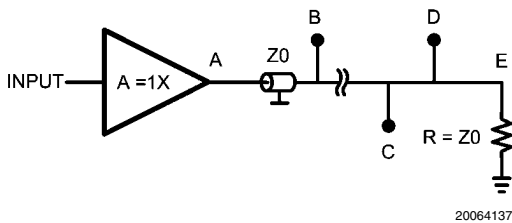

FIGURE 2.
- Use one buffer to drive to multiple points on one transmission line (see Figure 2)
Another transmission line possibility is to route the trace via several points along a transmission line (Figure 2) This is only possible if care is taken to observe certain restrictions. Failure to do so will result in impedance discontinuities that will cause distortion of the signal. In the configuration of Figure 2 there is a transmission line connected to the buffer output and the end of the line is terminated with Z_0 . We have seen in the section 'Connecting a load using a transmission line' that for the condition above, the signal throughout the entire transmission line has the same value, that the value is the nominal value initiated by the opamp output, and no reflections occur at the end point. Because of the lack of reflections no interferences will occur. Consequently the signal has every where on the line the same amplitude. This allows the possibility of feeding this signal to the input port of any device which has high ohmic impedance and low input capacitance. In doing so keep in mind that the transient arrives at different times at the connected points in the transmission line. The speed of light